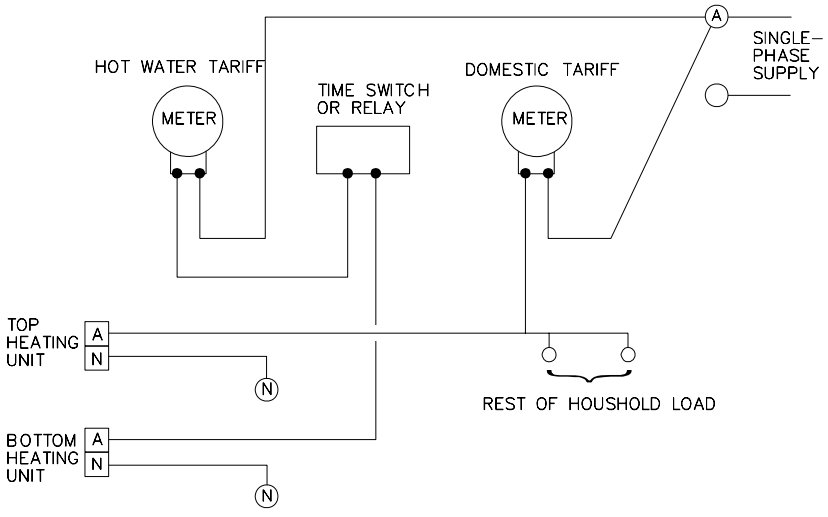

Fig. 5.5: Electrical connection of twin-element water heater (off-peak and continuous)
- ▶ **Figure 5.5** illustrates utilising the off-peak tariff on the bottom heating unit and continuous tariff on the booster heating unit.